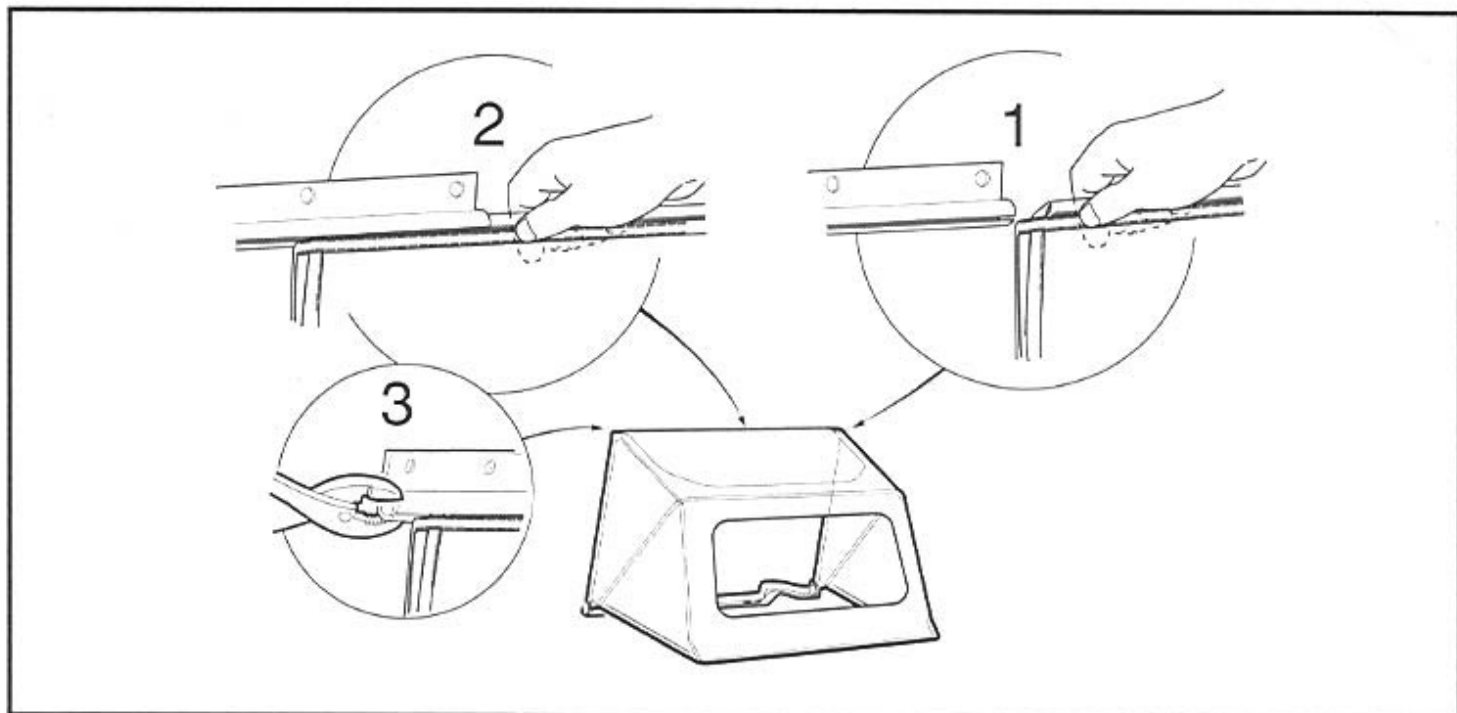

Figure 6 Secure Tracking Bar
- 3.1. Position the vinyl club protector to the tracking bar, and carefully slide the top (beaded) edge of the club protector into the slot on the tracking bar as shown (Details 1 and 2, Figure 6).
- 3.2. Crimp both ends of the tracking bar with pliers to hold the club protector in place (Detail 3, Figure 6).